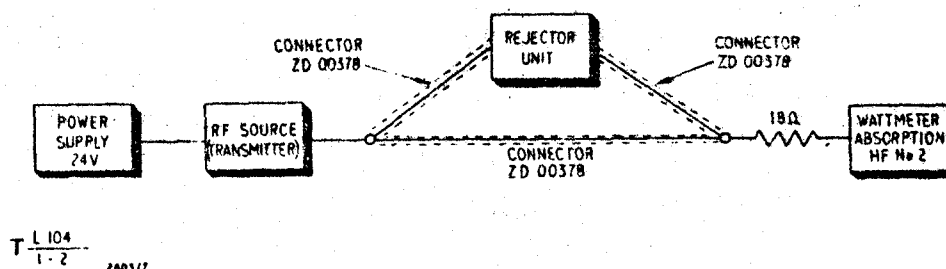

Fig 2 - Insertion loss test
- (d) Now insert the rejector unit between the transmitter and wattmeter as shown in Fig 2, and tune the WANTED TUNE FOR MAXIMUM control for maximum reading of the level meter.
- (c) Switch off the transmitter power supply and insert the rejector unit between the transmitter and the wattmeter as shown in Fig 2.